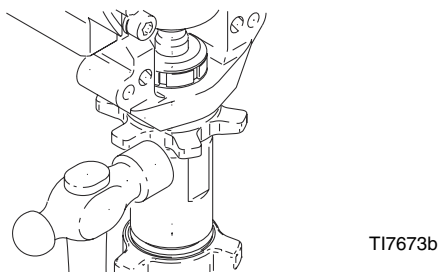

FIG. 17
6. FIG. 17. Loosen locknut by hitting firmly with a 20 oz (maximum) hammer. Unscrew pump.